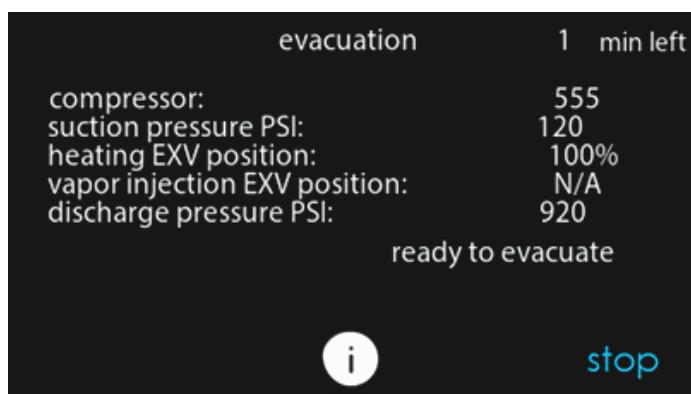

Fig. 28 – Evacuation Status Screen
5. Begin evacuation or refrigerant recovery as required for the procedure after Ion™ Black System Control indicates the EXV is open. Power may be removed from heat pump after the Ion™ Black System Control indicates “READY TO EVACUATE.” See Fig. 28.